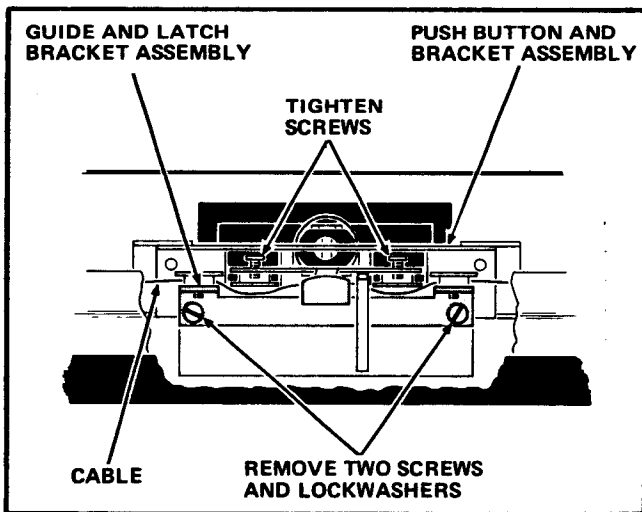

FIGURE 11
3. Remove the Cable from the Cable Guides on the Extension Assembly, and retighten the Screws. See Figure 11.
4. Remove the 2 Screws and Lockwashers which attach the Guide and Latch Bracket Assembly to the Push Button and Bracket Assembly, and remove the Push Button and Bracket Assembly from the Channel. See Figure 11.